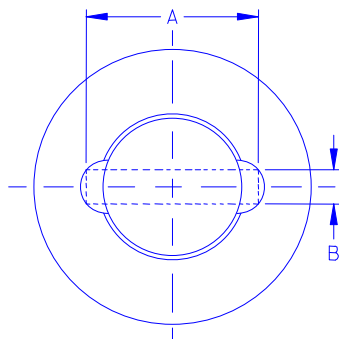

Figure 3: Retainer Removal Tool Dimensions
- One Piece only** The next step is to remove the retainer from the valve body. Properly secure the valve before attempting to remove the retainer. See figure 3 for dimensions to be used in fabricating a retainer removal tool using a flat piece of steel.